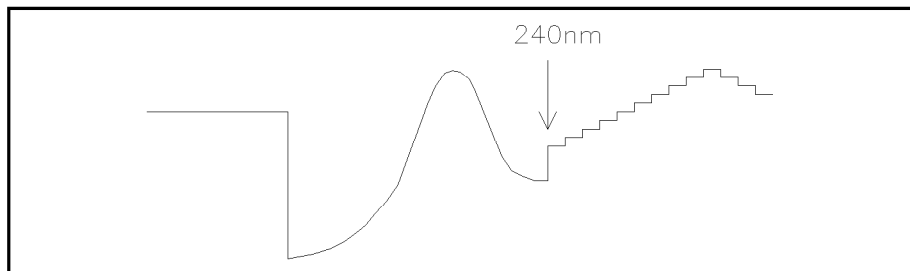

Figure 1-5. Scanning First Peak Near Fluorescence Maximum
6. Press **(2) (4) (0) (Enter)** to set the excitation wavelength near to the optimum.
7. Press the **(▲)** key repeatedly to increase the excitation wavelength in steps of 1 nm. The plot will be similar to Figure 1-5.